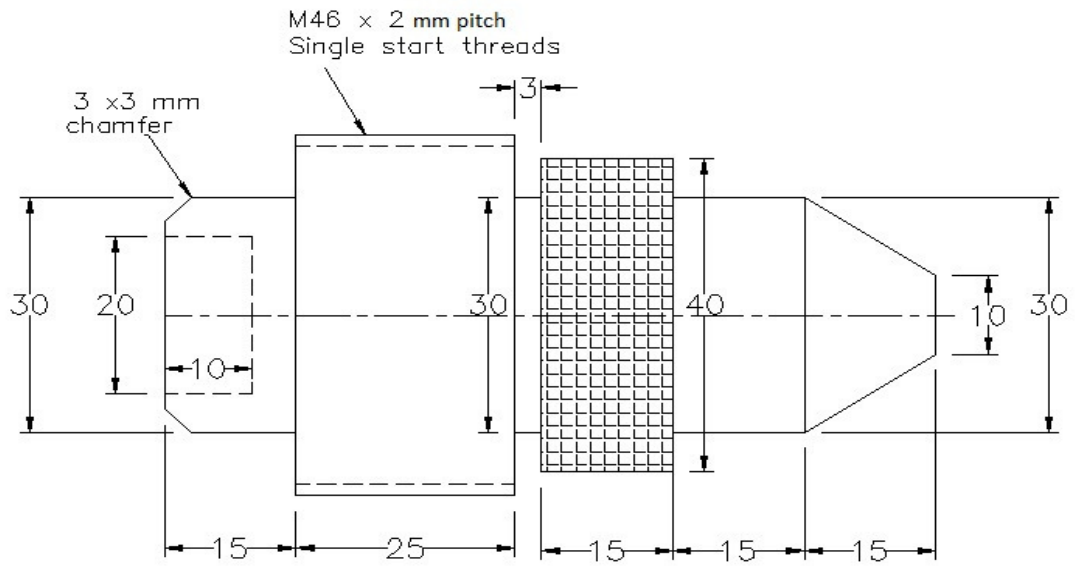

Figure 1 [Q:1(a)]
- Q.1** (a) Prepare operation and route sheet for component shown in figure:1 **07**